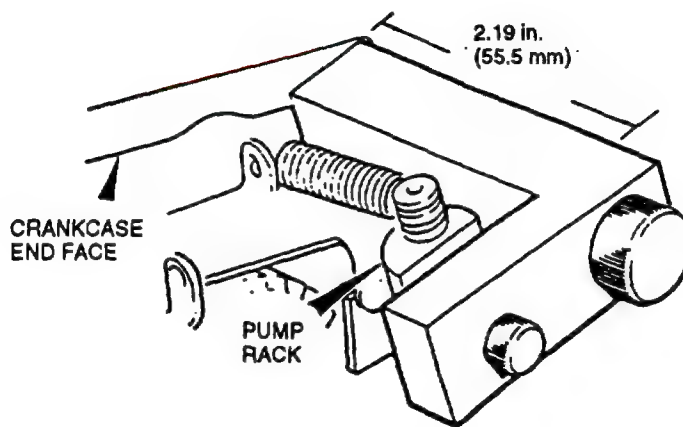

FIGURE 3-9. Setting Pump Rack
- f. Using fuel pump rack setting gage (317-50114), clamp pump rack in shutdown position. Screw on gage threads into end cover tapped hole, refer to **FIGURE 3-9**.